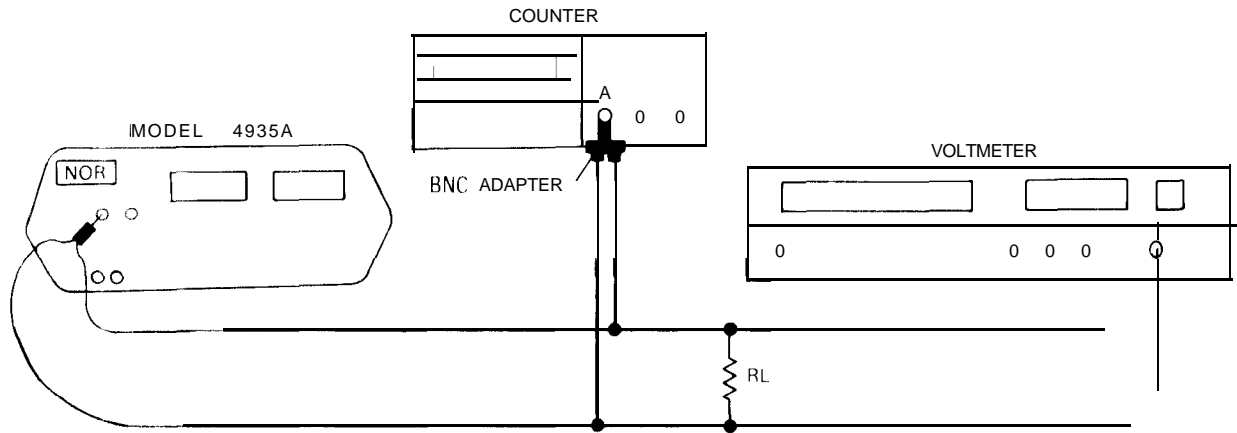

Figure 4-1. Transmitter Flatness Test at +10 dBm
1. Connect Voltmeter to the 4935A TRMT jack as shown in Figure 4-1
| 20 dB amplifier (see figure 4-1 3) | 2 banana plug test cables |